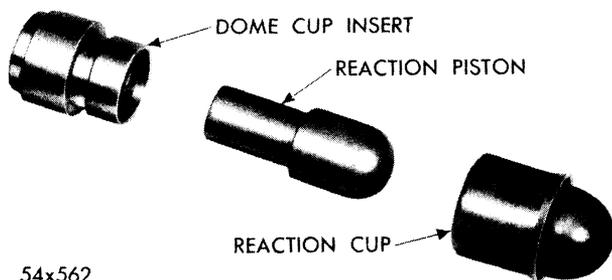
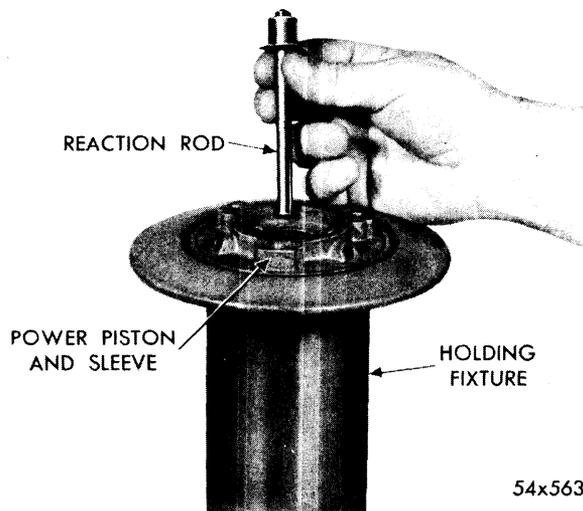

Fig. 85—Reaction Piston Insert and Dome Cup
Fig. 86—Installing Reaction Rod
- (1) Assemble stainless steel reaction piston into bronze dome cup insert, as shown in Figure 85. Small diameter of bronze insert must be toward spherical end of reaction piston.
- (2) Assemble NEW pre-greased dome reaction cup (pre-greased as supplied in kit) over spherical end of reaction piston and insert assembly. Force cup back firmly to assure snug fit of cup bead in groove of insert.
- (3) Place power piston and sleeve assembly on bench, sleeve end up, and after lubricating O.D. of dome reaction cup with brake fluid, press reaction piston end dome cup assembly into power piston sleeve (dome out). Use care to avoid damaging cup. Press down into sleeve firmly until it bottoms. Check to be sure that O.D. of reaction cup is not obstructing compensating ports, and that all of these port holes are open and clean.
- (4) Assemble NEW buffer and NEW metering hole seal to reaction rod and stop assembly.
- (5) Invert power piston and sleeve assembly and place in holding fixture, as shown in Figure 86 (sleeve end down). Drop complete reaction rod assembly into center of power piston.
- (6) Place reaction spring in center of reaction stop cavity, and control spring around outside of reaction stop, in power piston cavity.